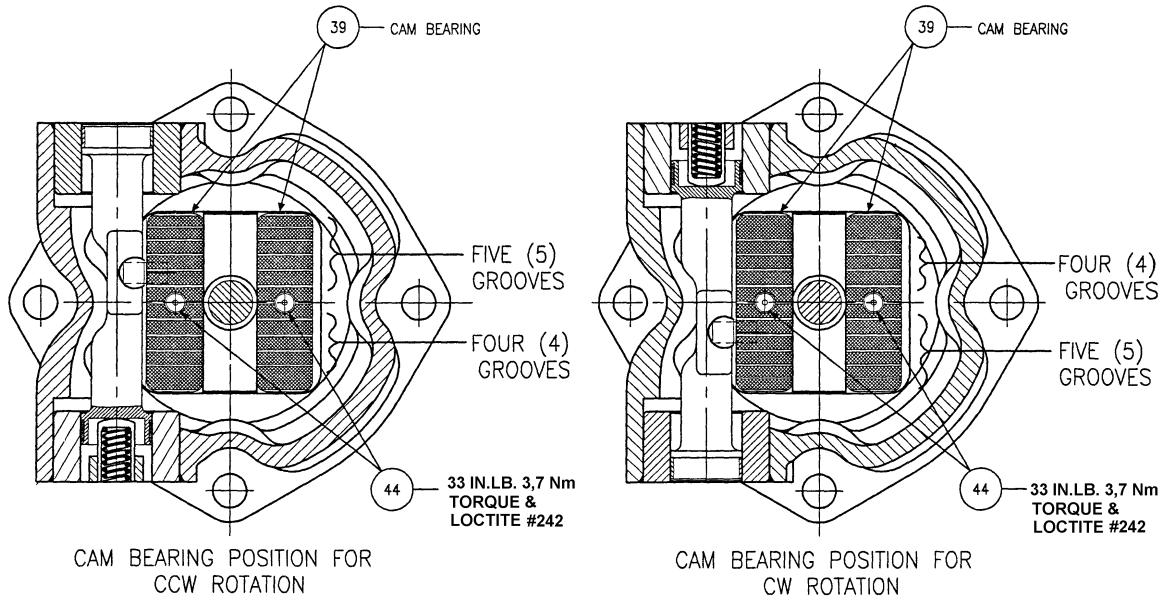

FIGURE 11
See figure 10. Assemble two cam bearings (39) to rocker cradle (6) with two screws (44). Apply Loctite to screws and torque to 33 in.-lb, 3.8 Nm. The cam bearings have lubricating grooves where the rocker cam makes contact. The cam bearings must be oriented on the rocker cradle to correspond to the side-of-center that the rocker cam will be stroking for CW or CCW shaft rotation. See Figure 11.
- The control piston must be reversed so that it is oriented correctly with the control caps. See figure 11.
- The rocker cam bearings must be removed from the rocker cradle, rotated 180° from the original position and reinstalled on the rocker cradle. See Figure 11.